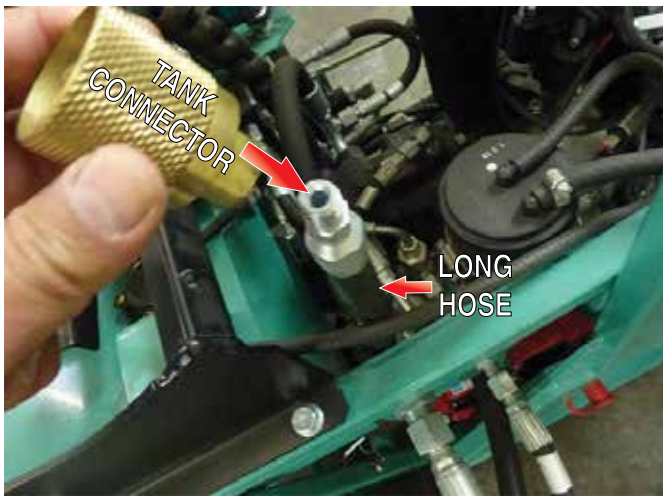

Figure 27. Install LPG Tank Connector
23. Connect LPG tank connector to long hose (P/N 46302), and tighten securely (Figure 27).